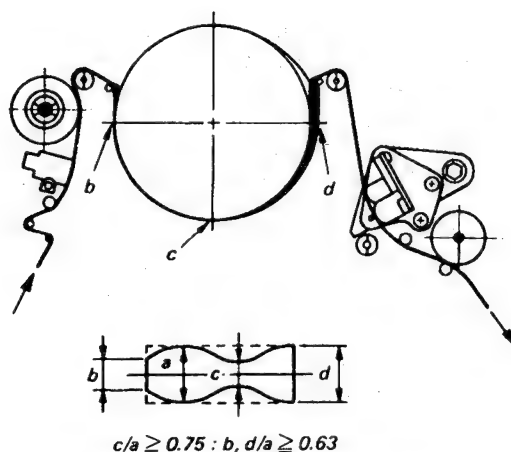

Fig. 1-4-9 Envelope waveform adjustment
3. Make sure the video envelope waveform (in its maximum output) meets the specification shown in Fig. 1-4-9. If not, adjust as follows:
1. Make recordings on E-180 and E-240 tapes, and make sure the playback output envelope meets the specification shown in Fig. 1-4-9.